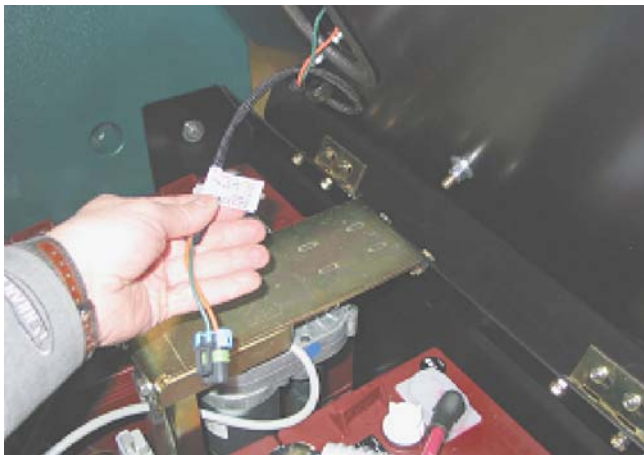

FIG. 1
1. Unplug the seat switch. (Fig. 1)